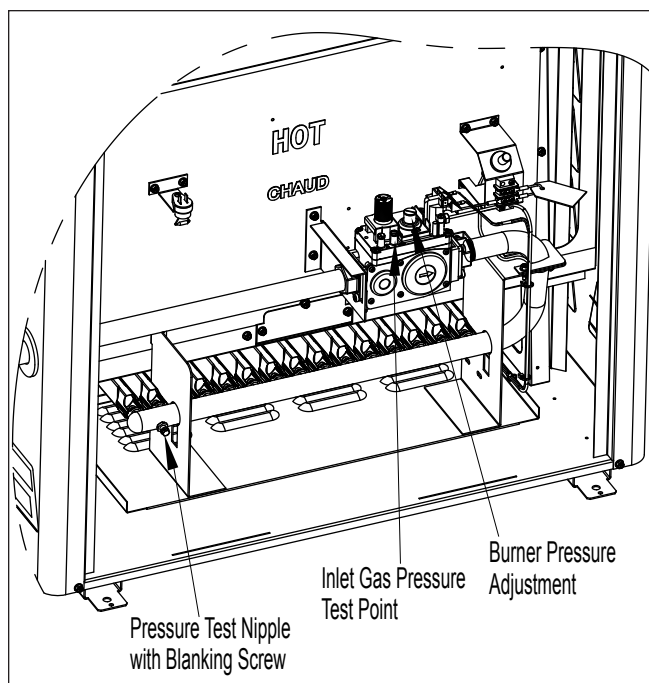

Figure 17. Lighting the Pilot
4. Remove the blanking screw in the manifold (burner) setting pressure test nipple (see Figure 17) and securely connect a suitable gas pressure gauge.
- b. Check that the flame failure device is heard to close within one (1) minute.